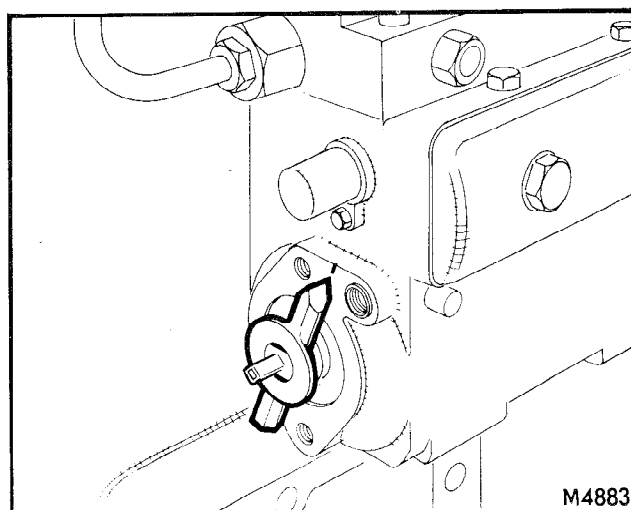

Fig. 3
- iii. Remove the tractometer drive housing from the pump. Fit timing pointer 18G 1114 to the pump camshaft and check that the pointer aligns with the timing mark on the pump body, refer to Fig. 3. If necessary, slacken the Allen screws securing the drive gear to the pump camshaft and rotate the camshaft until the tool and mark are aligned. Tighten the drive gear Allen screws and remove the timing pointer. Refit the tractometer drive housing.